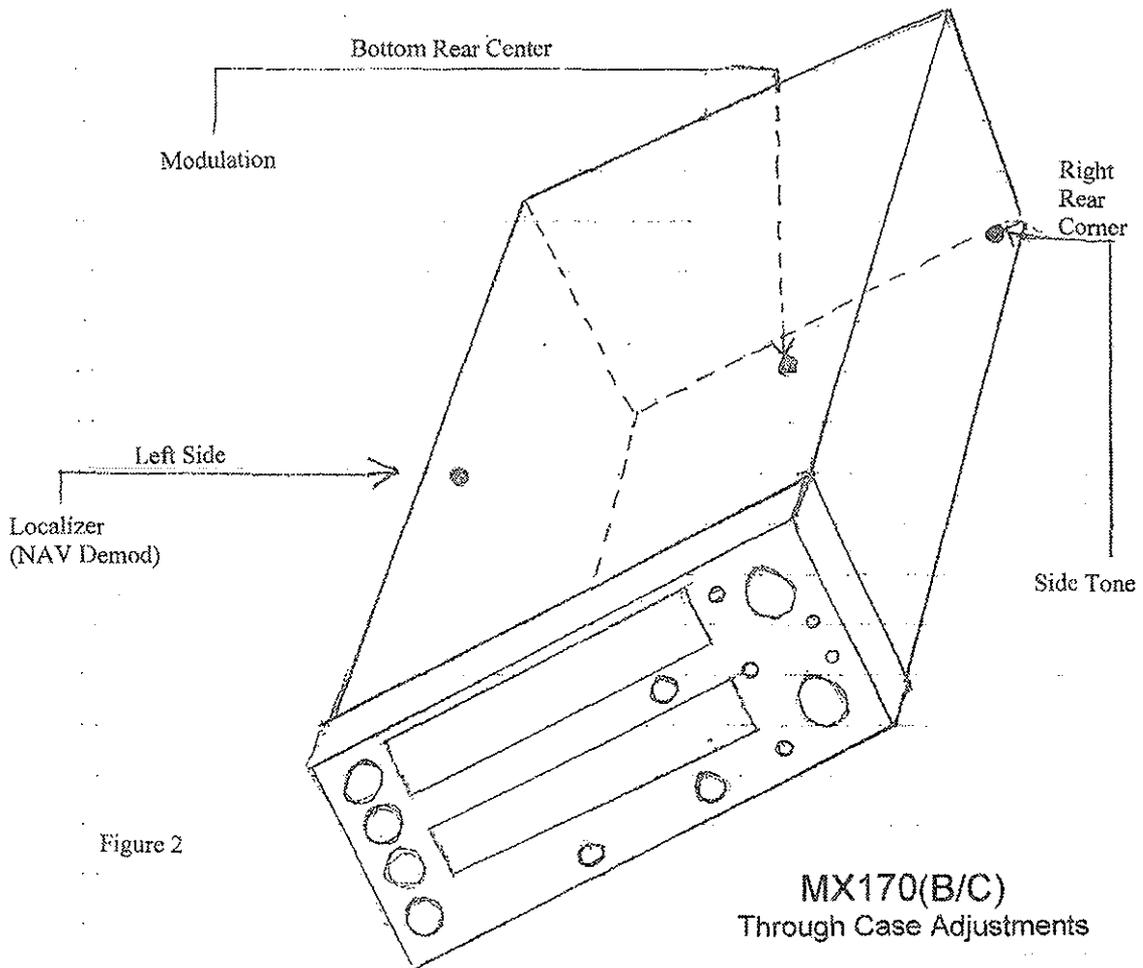

Figure 2
Operating controls for the MX170(C) are located on the unit front panel or through three access points in the case (See Figure 2)